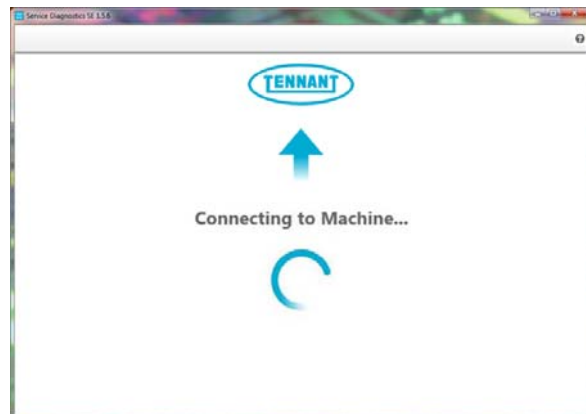

FIG. 19
4. The application software will connect to the machine. (Fig. 19)